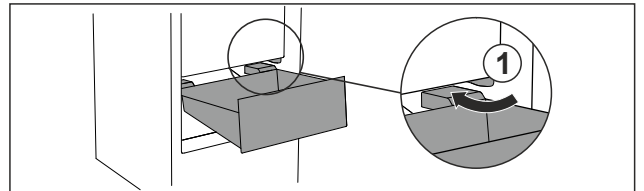

Fig. 102
- ▶ Guide drawer in at an angle around the stoppers Fig. 102 (1).